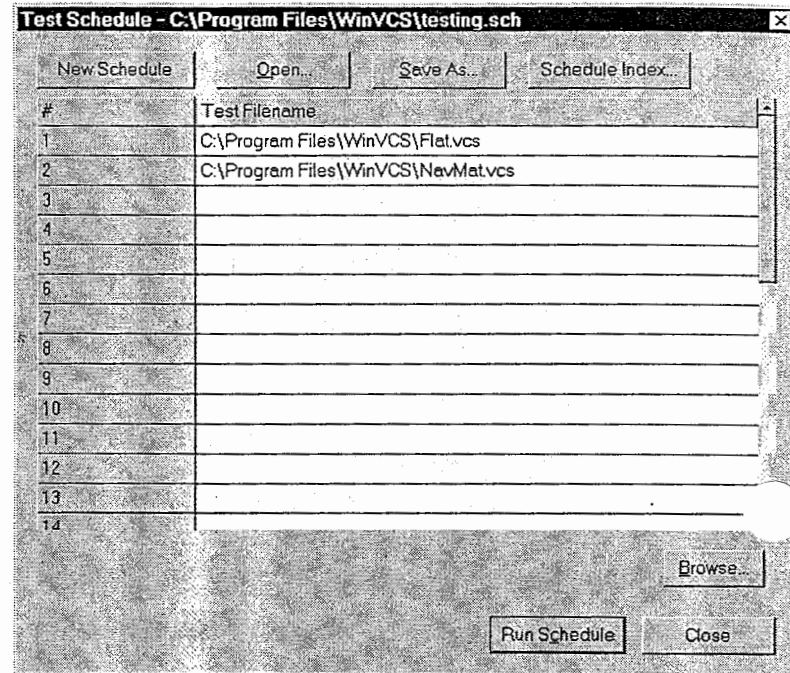

Figure 2-3. Test Schedule Window
1. Select Schedule Tests from the Options menu to display the Test Schedule window. See Figure 2-3.